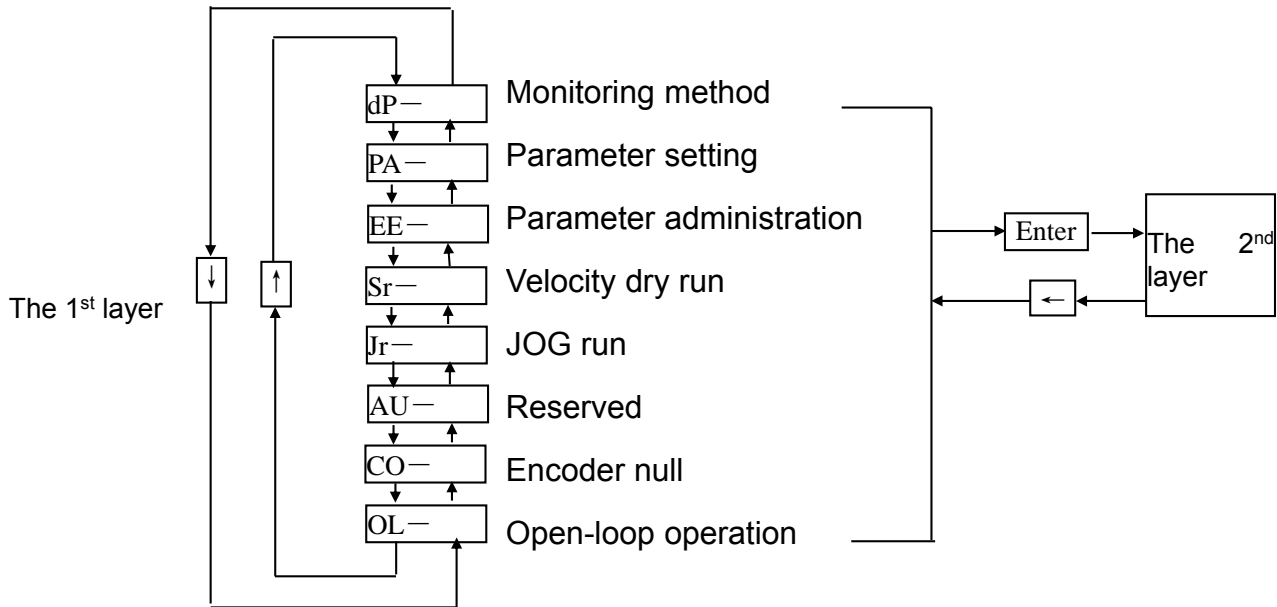

Fig. 6-1 Method operation frame
- The operation is performed based upon the multilayer menu; the 1st layer is main menu, which includes 8 operation methods; the 2nd one is the function menu under each operation method. Refer to Fig. 6-1 Main menu operation frame: